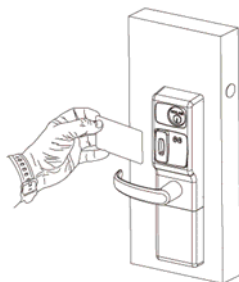

Figure 5-6 - Presenting a Proximity Card to a WA993
5.3.1.1 Place the card flat to and within 1 to 3 inches of the Proximity Reader (Figure 5-6).